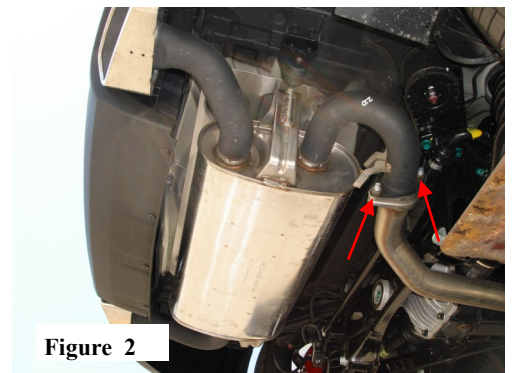

Figure 2
2. Remove the cross-brace and save the hardware for installation. (See Fig. 2)